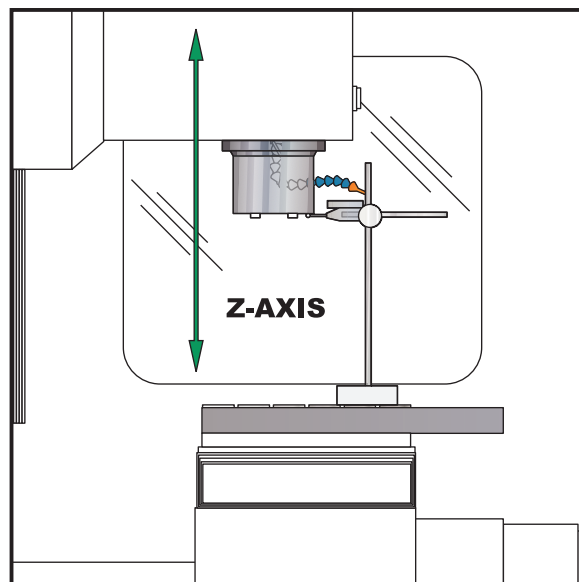

Figure 1-3 Dial indicator in position to check Z-axis.
1. Set up a dial indicator and base on the mill table as shown in Fig. 1-3.